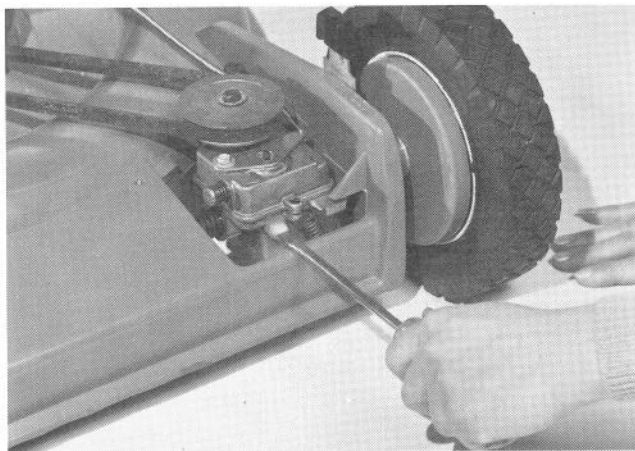

Figure 32
3. Place mower on level surface, clean area around plastic plug and remove plastic plug from gear case. Gear oil will flow out hole in gear case if filled to proper level (Fig. 32). If no gear oil is evident add gear oil to gear case: proceed to item 4.